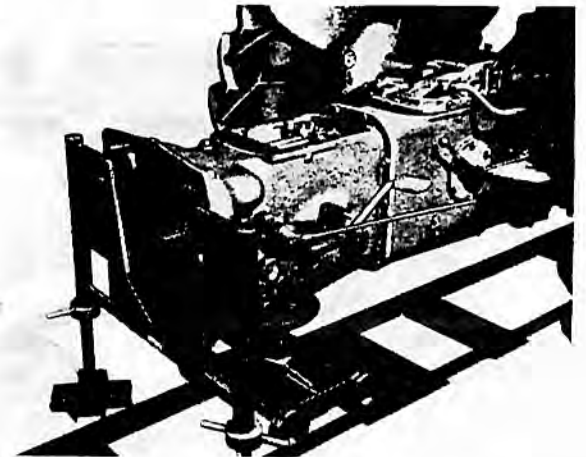

FIG. 7
11. Fit Support Stand of MF.27 to front face of transmission assembly as shown in Fig. 7.
NOTE.—Fig. 7 shows the instrument panel and steering box removed but this need not necessarily apply.